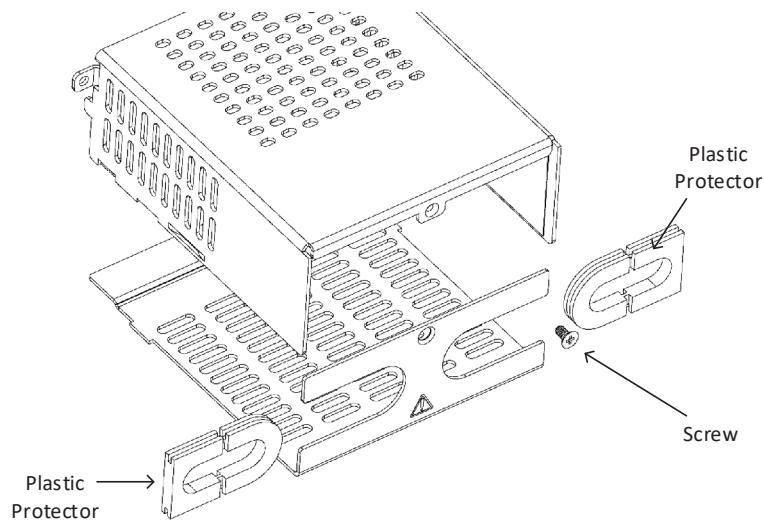

Figure 4-48: Disassembly of Output Protection (1kW Up to 5kW Full Width)
6. Open the output protection assembly (supplied in the accessories kit) by unscrewing the screw in the rear side as shown in Figure 4-48. Remove both plastic protectors.